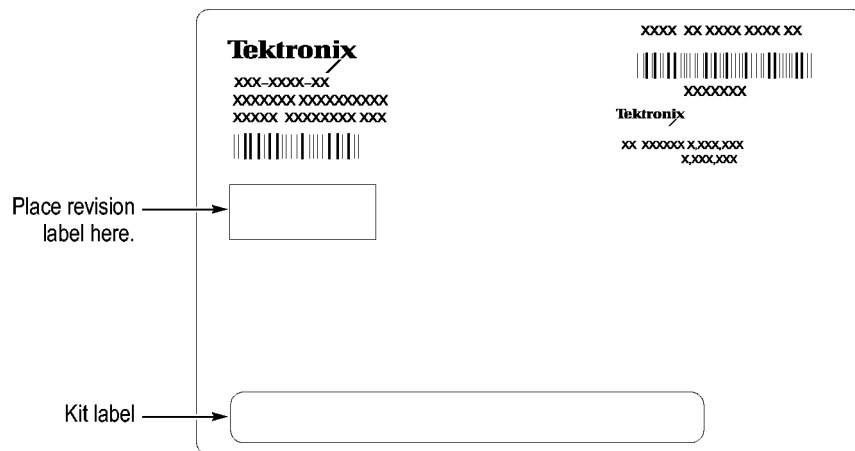

Figure 44: Kit label locations
3. Locate the big label on the side of the TLA7016 Interface Module and attach the TLA7KUP kit label as shown. (See Figure 44.)